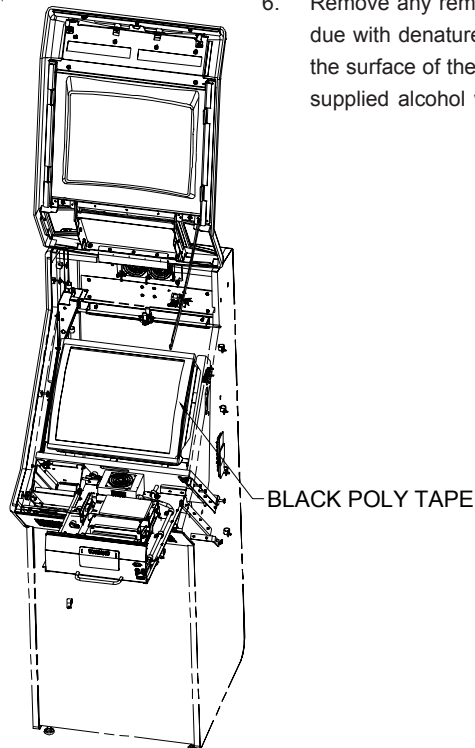

FIGURE 16 - FORCE UPRIGHT (NON-FUSION) TOUCHSCREEN ACCESS
Upright without coin door: Unlock and open the front bezel (see Figure 16).
3. Remove the black poly tape (see Figure 16) from around the edges of the old touchscreen, keeping the manner in which the tape was placed around the screen in mind.